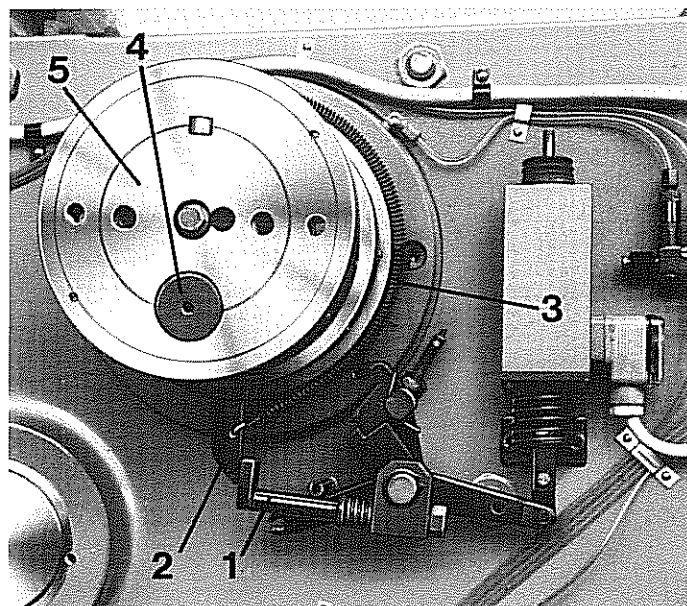

Fig. 7: Rolling key in disengaged position
By actuating the pedal, the rolling key stop 1 is swivelled off and the stop plate 2 thus released. The rolling key 4 is engaged by means of the tension spring 3, whereby the eccentric shaft 5 comes into frictional connection with the clutch wheel via the clutch wheel hub. The rotating clutch wheel now drives the eccentric shaft and thus moves the slide (Fig. 7).